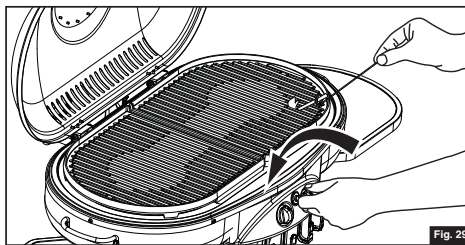

Fig. 29
1. Strike and place the burning long wooden match (or use the match extension or a butane lighter with extension) through the spaces in the grill grates near the ports of the burner. (Fig. 29)